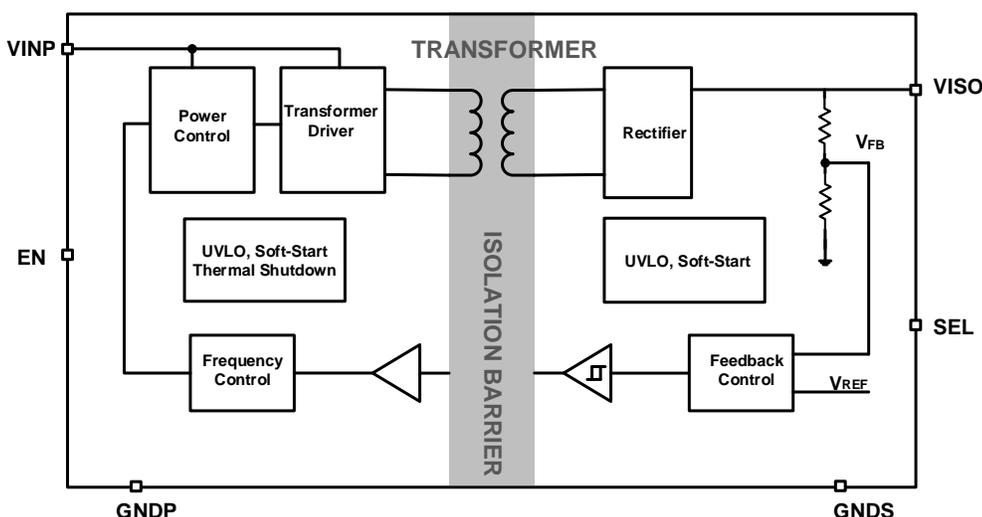

Figure 8-1. Functional Block Diagrams
The CA-IS3105W is a complete isolated DC-DC converter designed to provide isolated power with up to 650mW output power across a $5kV_{RMS}$ isolation barrier. The device operates over 4.5V to 5.5V input voltage range and uses a proprietary control mechanisms. The input supply V_{INP} is provided to the primary power controller that switches the power stage connected to the integrated transformer. Power is transferred to the secondary side and regulated to a fixed output voltage set by the SEL pin. The soft-start feature allows to reduce input inrush current and avoid output overshoot. The device also incorporates an output enable (EN) control and undervoltage lockout function that allows the user to turn on the part at the desired input-voltage level. Figure 8-1 shows the CA-IS3105W's functional block diagrams. Connect the EN pin to V_{INP} or force this pin high to turn on the DC-DC converter. Force this pin low to disable the device and enter low-current shutdown mode. This device offers a ready-made, reliable, easy-to-use solution and allows users save PCB space and reduce design time for the popular 5V, 3.3V power supply systems.